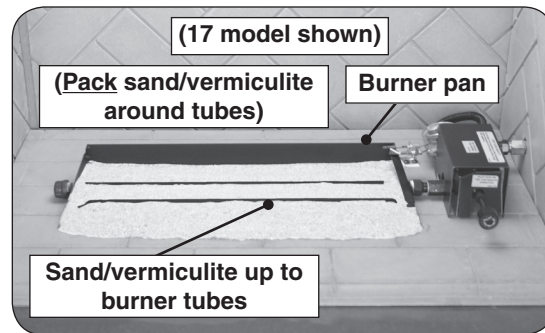

Fig. 21-1 Place sand/vermiculite
- Partially fill the burner pan with the sand/vermiculite until it rests at a level toward the top of the burner tubes as shown in Fig. 21-1.